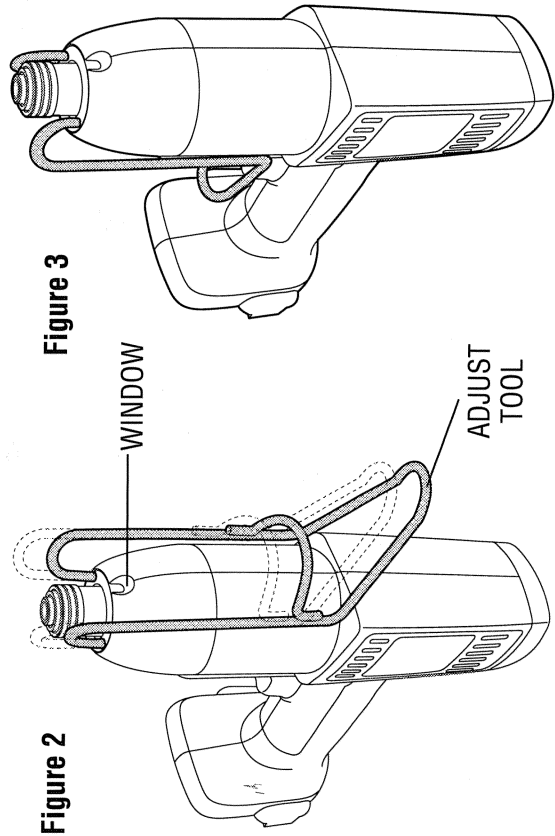

Figure 2
- 2) Insert the wireform tool into the two holes on the front ring of the unit. Be sure to insert the wireform tool as shown in Figure 2. Slowly turn the ring until the  symbol shows through the window on the top front of the tool. At this point, the wireform tool will drop into two adjustment notches under the front ring. You will not be able to rotate the ring after the wireform tool drops into the notches.